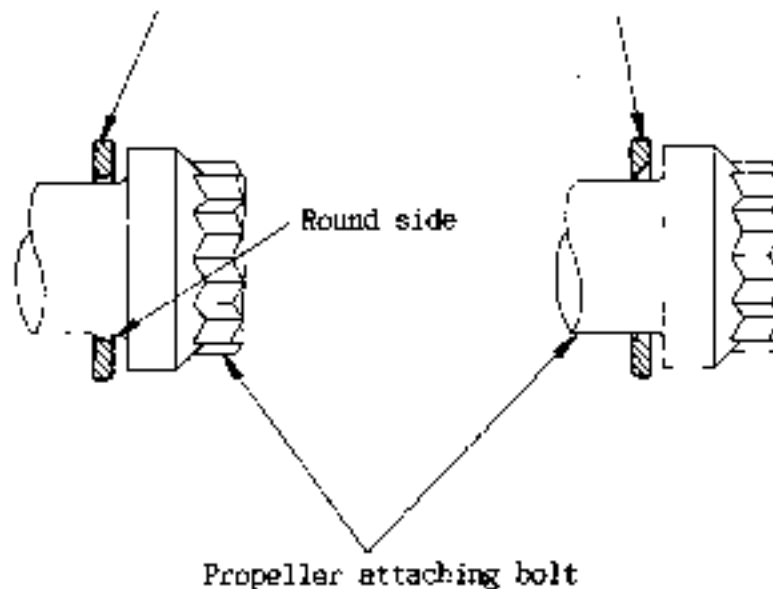

Fig.6-48A
- (1) Open nacell upper door and make sure that propeller de-icing brush block is removed.
- (2) Remove cover from propeller attaching flange, engine side and clean up the flange.
- (3) Lubricate a new O-ring with engine oil and put it in the flange.
- (4) Make sure that propeller assembly has passed balance test and functional test.
- (5) Remove spinner dome.
- (6) Make sure propeller is in the feathered position. If no feathered position, push up high pitch stop unit pin to set to feathered position.
- (7) Hang propeller with a sling (016A-99074 or equivalent).
- (8) Clean up propeller flange and check for damage.
- (9) Install propeller so that dowel pin on engine flange may align with hole on propeller flange.
- (10) Install eight each of propeller attaching bolts (A-2047 or B-3339) and new washers (A-2048-2) from the rear of the propeller mounting flange of engine. Install washers under boltheads as shown in Figure 6-48A.